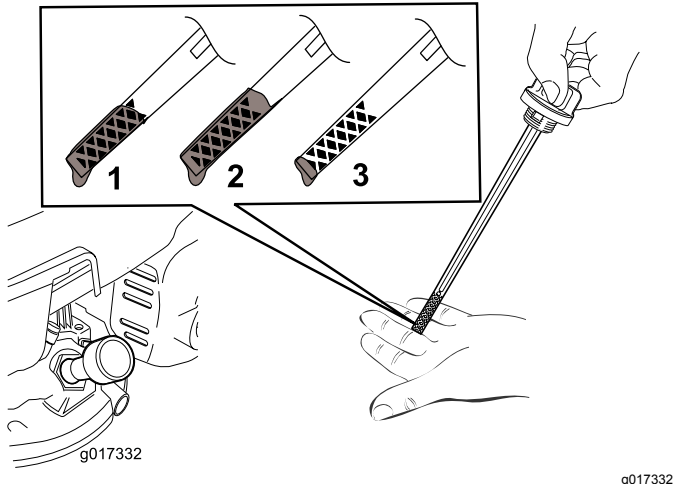

Figure 11
5. To determine the proper oil level on the dipstick, refer to Figure 11.
Note: Fill the engine crankcase with oil until the dipstick indicates that the engine oil level is correct as shown in Figure 11. If you overfill the engine with oil, remove the excess oil as directed in Changing the Engine Oil (page 14).